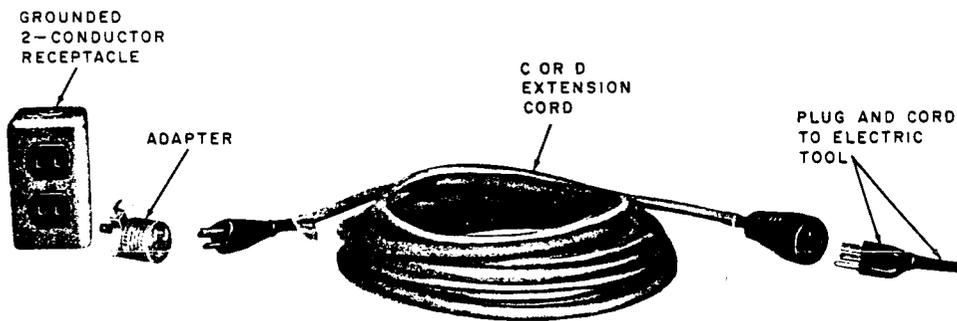

Fig. 7--Typical Cord Makeup
- 3.06 The D extension cord is used for connecting heavy duty electric tools such as 1/2-inch drill or an electric soldering pot to a power outlet. The D extension cord is rated for 15 amperes at 120 volts or 1.875 kW. The C extension cord is rated at 7.5 amperes at 120 volts or 937 watts. Figure 7 gives a typical cord makeup using an extension cord and adapter.